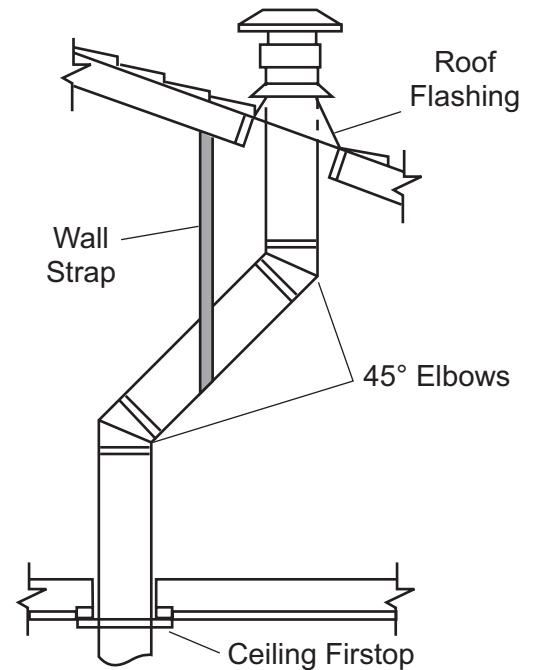

Figure 31 - Offset with Wall Strap and 45° Elbows
1. Determine the route your vertical venting will take. If ceiling joist, roof rafters or other framing will obstruct the venting system, consider an offset. See *Figure 31* to avoid cutting load bearing members.
NOTE: If an offset is needed to avoid obstructions, you must support the vent pipe every three (3) feet. Use wall straps for this purpose. See Figure 31, page 26. Whenever possible, use 45° elbows instead of 90° elbows. The 45° elbow offers less restriction to the flow of the flue gases and intake air.